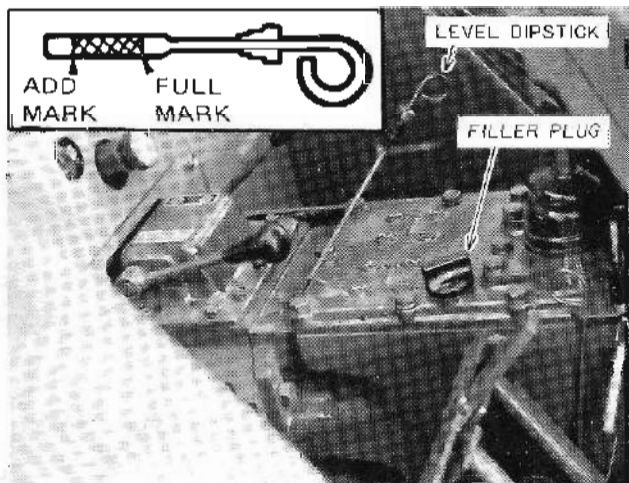

Figure 41 – Transmission, Rear Axle and Hydraulic System Oil Level Dipstick and Fill Plug
1. With the tractor standing level and the engine off, check the oil level with the dipstick, Figure 41.
2. Remove the filler plug, Figure 41, and fill with new oil of the type specified, page 24.